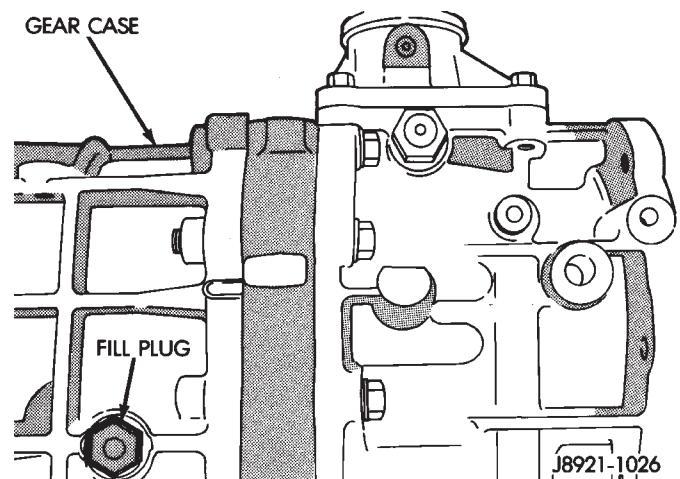

Fig. 12 Fill Plug Location
17. Fill the transmission with the proper fluid (Fig. 12).